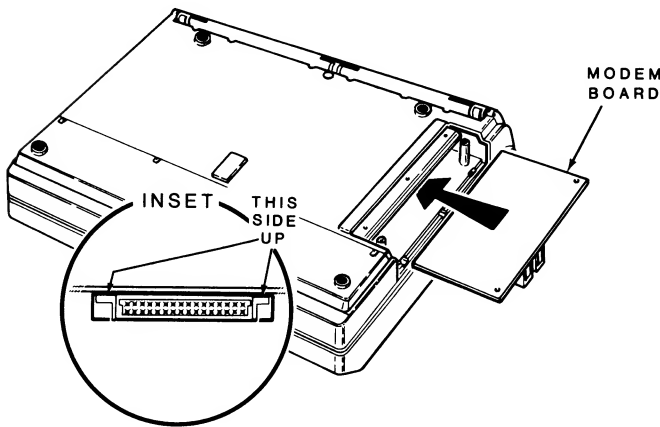

Figure 18-2. Installing the Internal Modem Board
3. Refer to Figure 18-2. Compare the connector on the modem board with the inset in the figure. One side of the connector is wider than the other. Position the board so that the wider side of the connector is up, as shown in the inset.